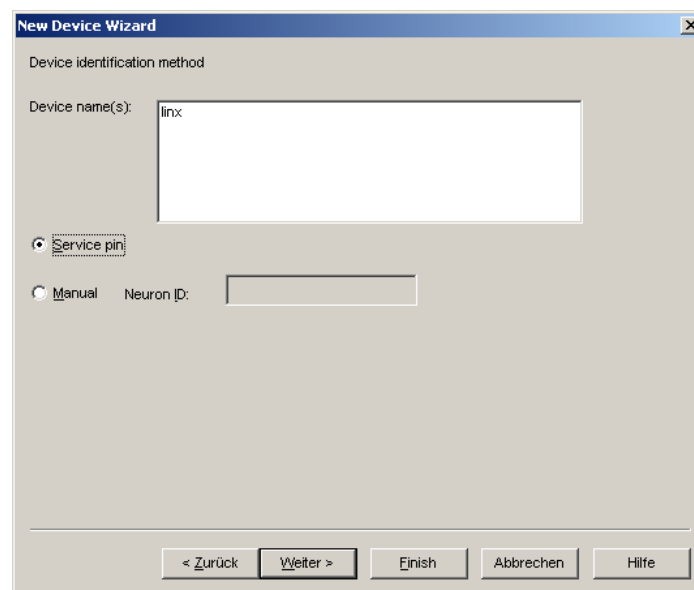

Figure 90: Use Service Pin.
6. Check Service Pin as the device identification method as shown in Figure 90 and click **Next**.